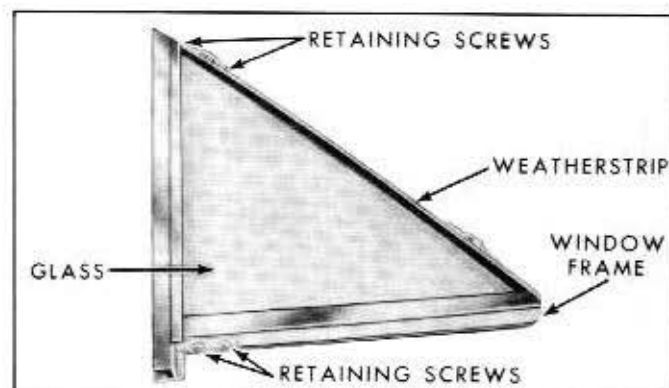

Fig. 13C-11—Stationary Glass—(60C-8053)
3. Disassemble the window frame and install a new glass if required. When installing the glass, apply sealer between the glass and the weatherstrip. See figure 13C-11.